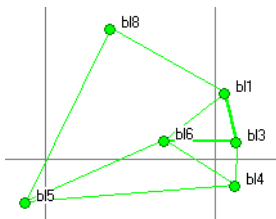

Figure 4-5. Network Scheme with Processed Vector
- Click the **GPS+ PostProcessing** button to process vectors. Processed vectors with a Fixed solution type display on the scheme as a green line (Figure 4-5).